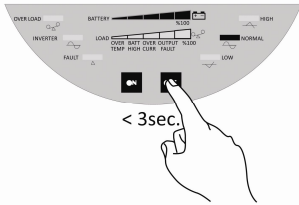
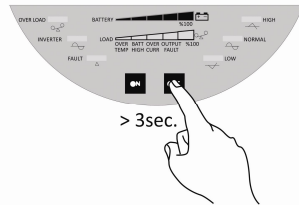

Figure 3.11
Figure 3.12
1. **If UPS is in Normal Operation Mode:** Turn off your loads safely. Briefly press **OFF** button (Figure 3.11) and observe that **NORMAL** LED turns off. Press and hold **OFF** button until audible warning silences (Figure 3.12) and observe that battery indicator LED lights turn off.